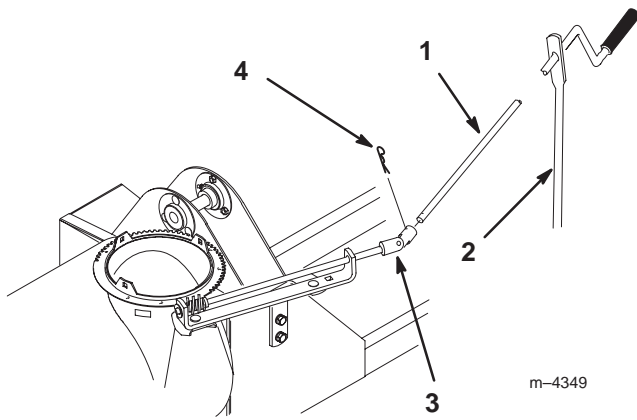

Figure 24
- Slide the chute control rod through the hole in the end of the crank support (Fig. 24).
4. Connect the end of the chute control rod to the universal joint on the snowthrower with a medium hairpin cotter (Fig. 24).
3. Connect the end of the chute control rod to the universal joint on the snowthrower with a medium hairpin cotter (Fig. 24).